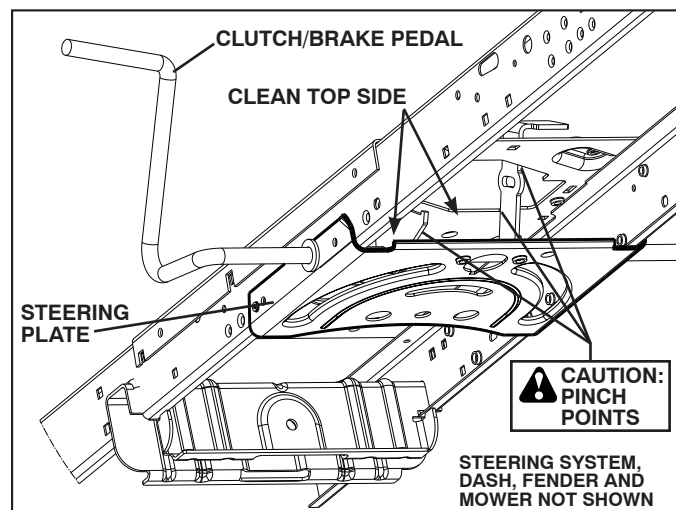

Fig. 20
CAUTION: Avoid all pinch points and movable parts (See Fig. 20)
1. SET PARKING BRAKE LEVER AND LOWER ATTACHMENT LIFT (See Fig. 20)